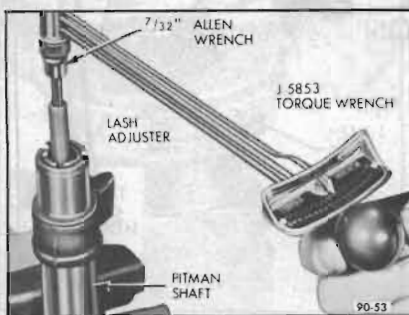

Figure 90-48—Checking Torque on Lash Adjuster
3. Check the torque on the lash adjuster. See Figure 90-48. If torque exceeds 15 pound inches, pitman shaft assembly should be replaced.